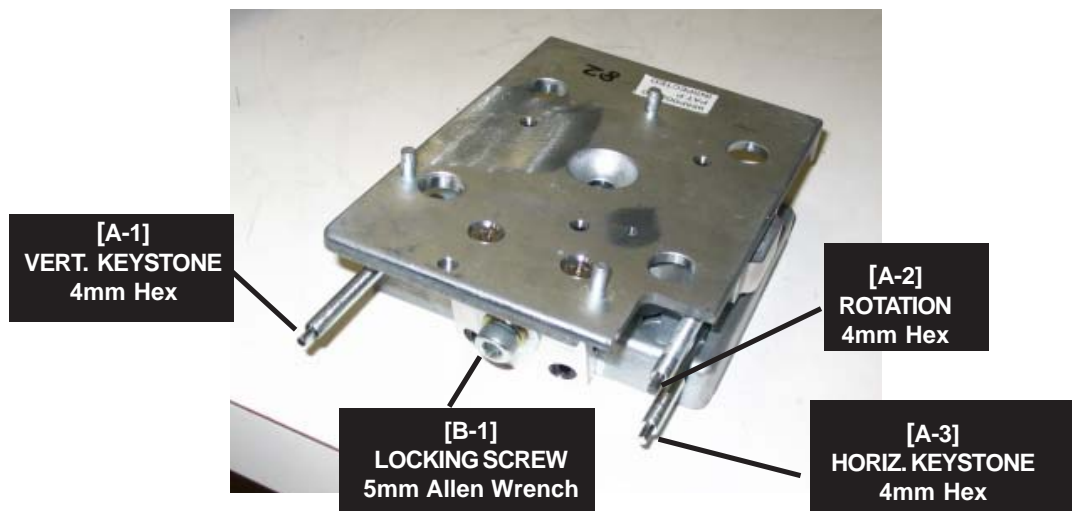

Figure 3-6: UNIT-ADJUSTER
Mechanical Optical Engine Adjustments are made using the UNIT-ADJUSTER shown in *Figure 3-6*. The UNIT-ADJUSTER is mounted under the Light Engine on the Engine Plate. It is accessed from the front of the set through the opening for the Card Reader. Refer to the model specific Disassembly Instructions and remove the:
- [B-1] is located on the front of the UNIT-ADJUSTER, refer to *Figure 3-6* and *Figure 3-9*.